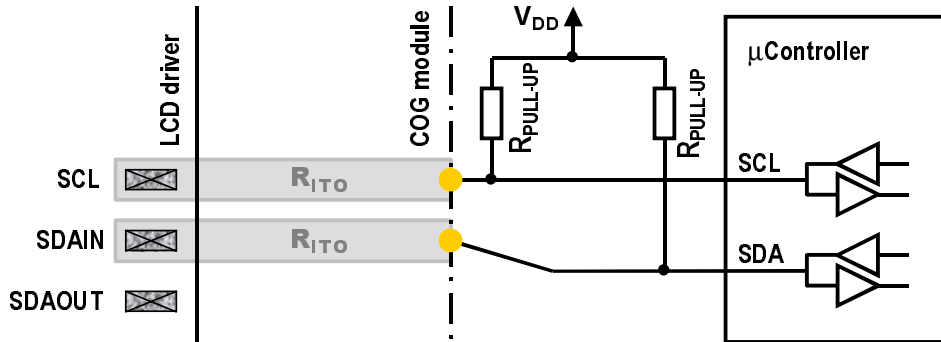

Fig.7 Example with SDAOUT pin left unconnected.
3) It is possible to implement the I²C protocol partially, in a way that ignores the ACKnowledge bit after each byte. SDAOUT may be left unconnected in this case, as shown in Fig.7. Such configuration may be desirable also because it eliminates the common-mode noise that results from the ACKnowledge current flowing through the common resistance in V_{SS} supply of the driver IC. Note however that in this case any read-back function that is implemented in the LCD driver IC is not possible to use.